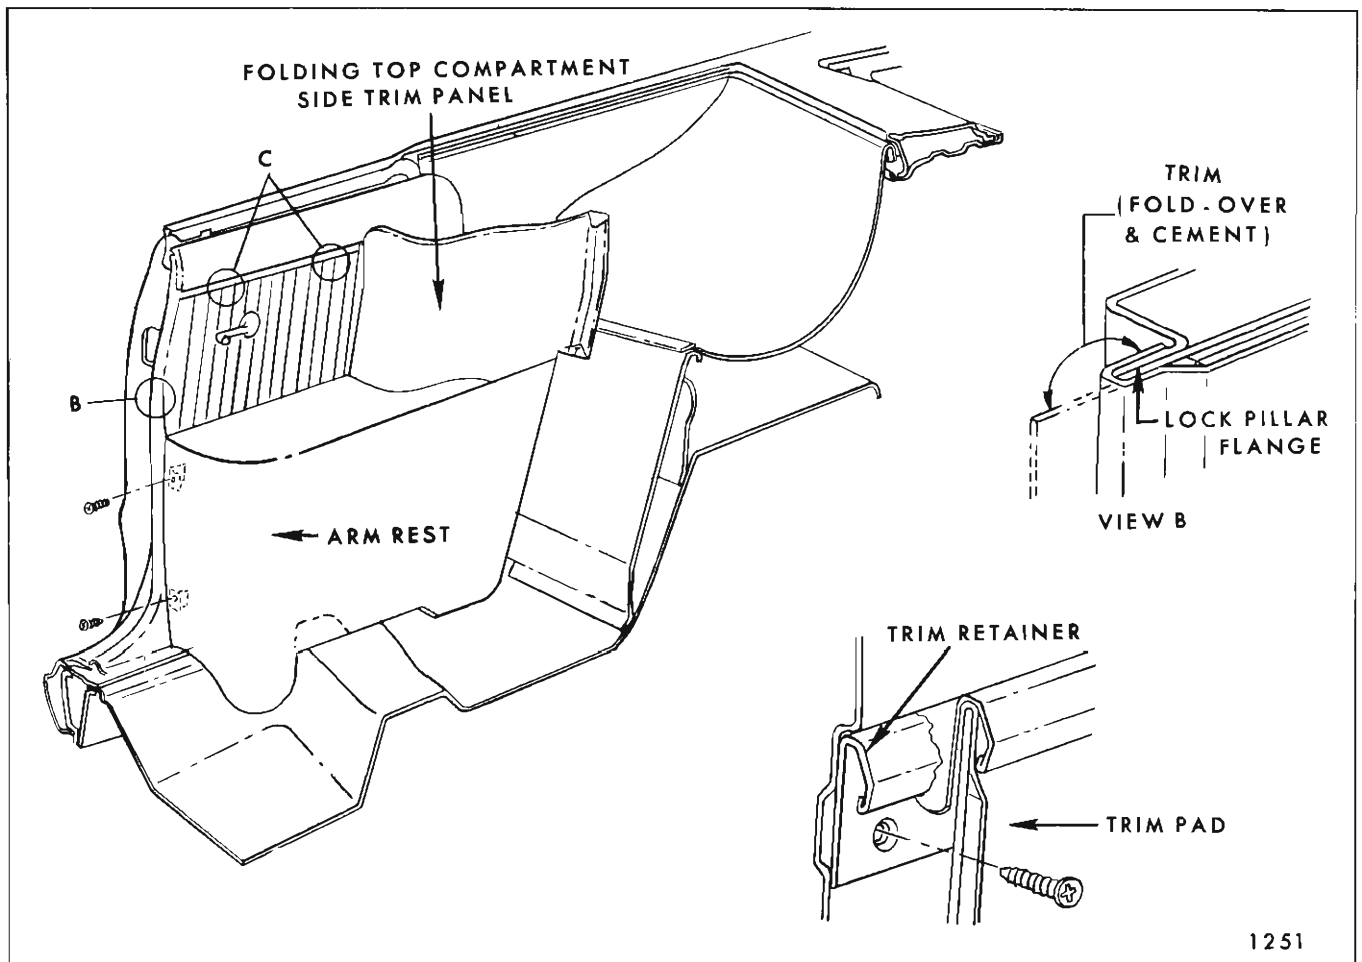

Fig. 2E4—Rear Quarter Trim Assemblies
4. Slightly bend trim assembly downward to disengage top edge from trim pad retainer (see View "C" in Fig. 2E4).
5. Swing rear edge of trim assembly forward and break cement bond at lock pillar pinchweld flange (see View "B" in Fig. 2E4) and remove trim assembly from rear quarter inner panel.
7. To install, reverse removal procedure. Prior to installation of pinchweld finishing strip, cement forward overlapping edge of trim assembly to out-board surface of pinchweld flange (see View "C" in Fig. 2E4).